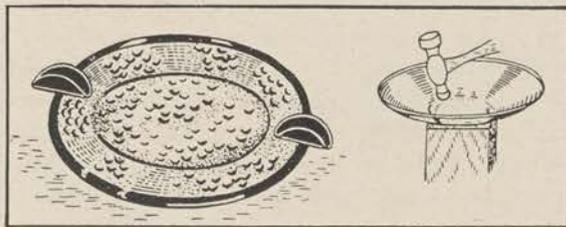

Figure 97.
d. Mark on the tin circle which is to be the flat bottom of the tray. Place the mold in a vise and hold the tin over the hollow depression in its end. Using the round end of the ball peen hammer, tap lightly along the edge of the circle marked on the tin. You will have to move the tray as you work to keep the area being hammered over the mold. Do not hammer inside the circle, or the bottom will be rounded instead of flat. Work only around the edge until the tray has taken its finished form (fig. 97).